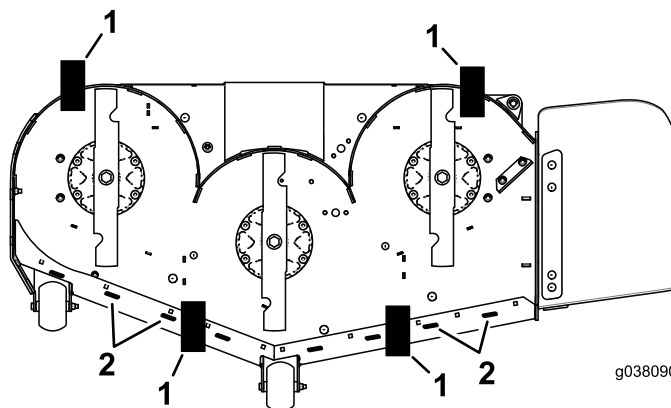

**Figure 109**
11. Place 2 blocks (see Block Height and Rake Table) under the rear edge of the cutting deck skirt; 1 on each side of the cutting deck (Figure 109).